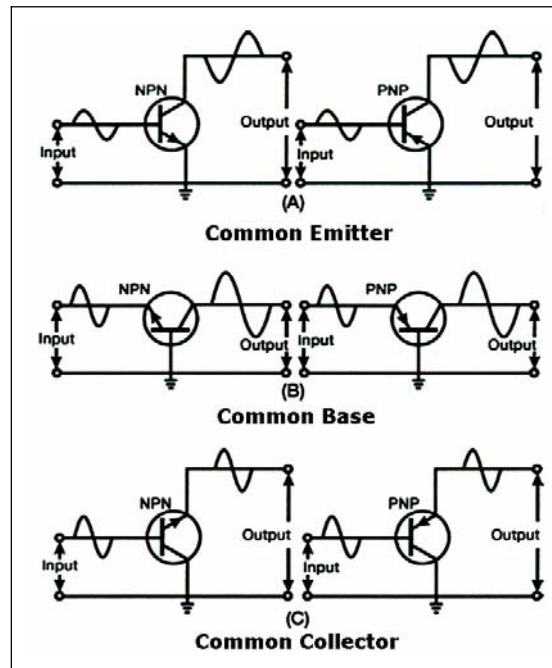

Figure 2-18. Transistor Configurations
2-61. A transistor may be connected in any one of three basic configurations (see also Figure 2-18):
2-63. The CE configuration (see Figure 2-18, view (A)) is the arrangement most often used in practical amplifier circuits. This is because it provides good voltage, current, and power gain. The CE has a somewhat low input resistance (500 ohms to 1,500 ohms) because the input is applied to the forward-biased junction. The CE has a moderately high output resistance (30 kilohms to 50 kilohms or more) because the output is taken off the reverse-biased junction. Since the input signal is applied to the base-emitter circuit and the output is taken from the collector-emitter circuit, then the emitter is the element common to both input and output.
2-64. Using the PNP CE configuration (see Figure 2-18, view (A)), let us review the CE amplifier. When a transistor is connected in a CE configuration, the input signal is injected between the base and emitter, which is a low resistance, low-current circuit. As the input signal swings positive, it also causes the base to swing positive with respect to the emitter. This action decreases forward bias that reduces collector current (I_C) and increases collector voltage (making V_C more negative). During the negative alternation of the input signal, the base is driven more negative with respect to the emitter. This increases forward bias and allows more current carriers to be released from the emitter. This results in an increase in collector current and a decrease in collector voltage (making V_C less negative or swing in a positive direction). The collector current that flows through the high resistance reverse-biased junction also flows through a high resistance load (not shown), resulting in a high level of amplification.